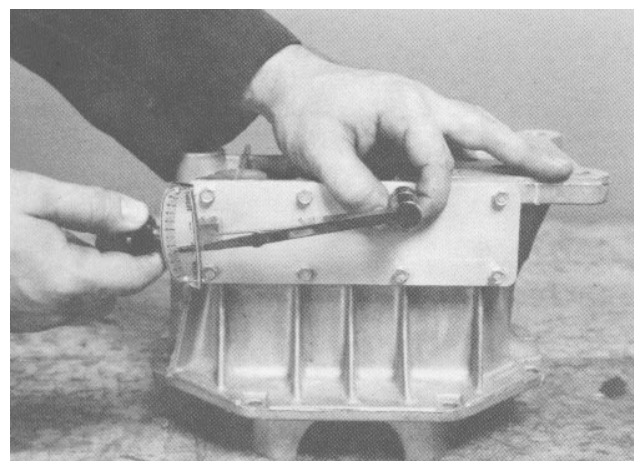

Figure 46
12. Install the spur gear cover. Use Permatex No. 2 or silicone sealant when installing the cover. Tighten the capscrews to a torque of 25 - 40 in.-lb. (Fig. 46).